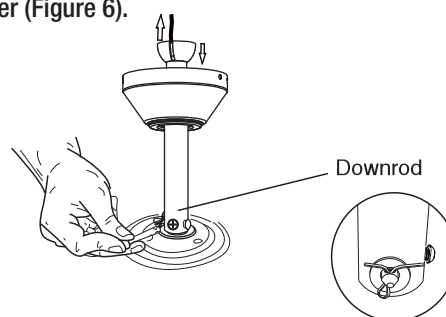

Figure 6
- Push the pivot pin (2) through the hanger and downrod holes (Figure 6). Pivot pin's insert end is of special designed cone shape, it would push away and won't harm the wires inside the downrod. Secure the pivot pin (2) by inserting the split pin (1) and bending the ends to prevent it from falling out of the holes (Figure 6).
- Secure the hanger and downrod by tightening the screw on the hanger (Figure 6).